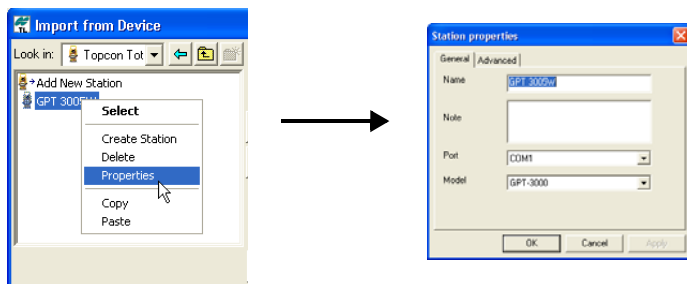

Figure 2-26. Changing the Total Station Properties
- A new icon for the Total Station displays (Figure 2-26) in the **Import from Device** dialog box. To change the properties (communication parameters, name, model, and so on), right click on the icon and select **Properties** on the pop-up menu. The **Station Properties** dialog box for the Total Station is identical to the **Create Station** dialog box for the new Total Station.